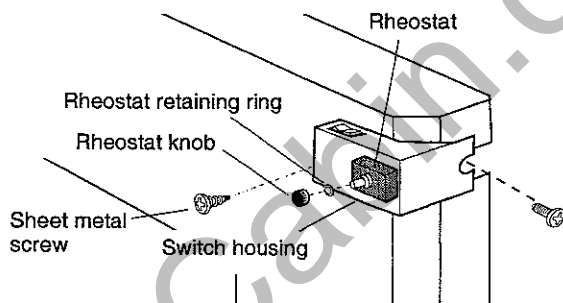

Fig. 12. Attach the rheostat to the switch housing, the retaining ring and knob to the rheostat, and the switch housing to the stove.
6. Bring the rheostat cord to the side of the stove. Re-attach the stove's rear skirt, with the fan rheostat cord and the on/off switch wires passing through the slot on the side at the switch housing location. Leave only the bolt for the switch housing loose. Pop out the round plug in the switch housing. Remove the rheostat knob and retaining collar from the stem; pass the stem through the larger hole in the switch housing. Align the locator pin with the smaller hole. Install the retaining collar from the outside of the housing, and snug it up to the housing. Slide the rheostat knob onto the control shaft Fig. 12.
7. Tighten the bolt and sheet metal screw holding the switch housing to the rear skirt and the stove. Fig. 12.